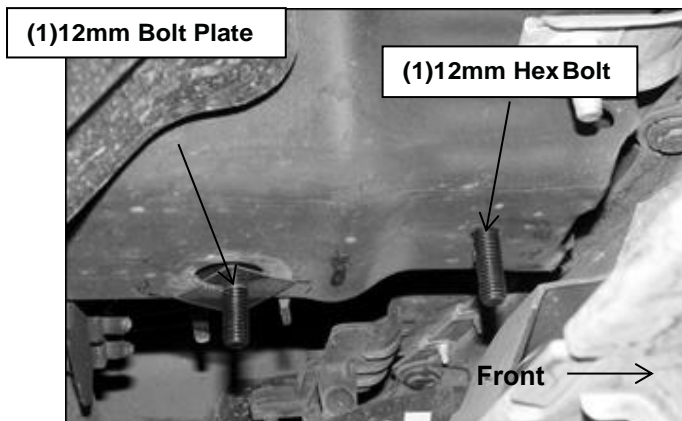

Fig 6 Driver/left tow with Bolt and Bolt Plate
Insert (1) 12mm Bolt Plate, into the end of the frame channel, and out through the hole in the bottom of the frame. Insert (1) 12mm Hex Bolt into the factory hole for the tow hook bolt, and out through the hole in the bottom of the frame (Fig 6).